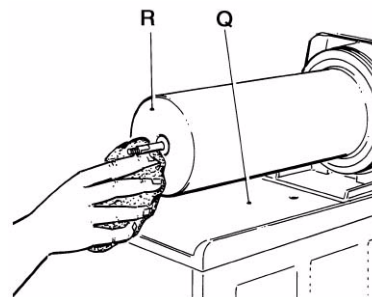

FIGURE 18
9. Thoroughly wash each part that has been removed in steps 1-8 and the condensation tray (Q), as well as the freezing cylinder (R) with warm water and mild dish washing detergent. Rinse well with clear water and allow to air dry (see Figure 18). Reassemble with clean hands.